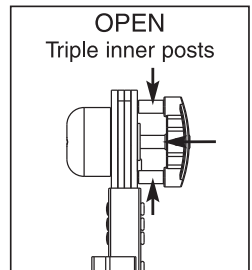

Figure 2
- 2) In the open position (See Figure 2) the ladder angle can be adjusted.
Note: The open position can be verified by the exposed triple inner posts on the push knob (See Figure 2).